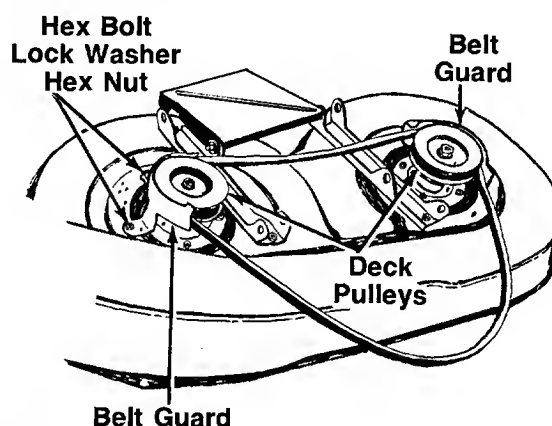

**FIGURE 2.—Single Cylinder Engine Lawn Tractor Shown**
2. Remove the hex bolts (belt keepers) from the engine pulley belt guard. See figure 2.
**NOTE:** Your unit will have either two or three hex bolts. When reassembling, make certain hex bolts are assembled in the same locations from which they were removed. See figure 2.
**NOTE:** Figure 2 is shown with the unit tipped up for clarity. It is not necessary to tip the unit to remove the belts.